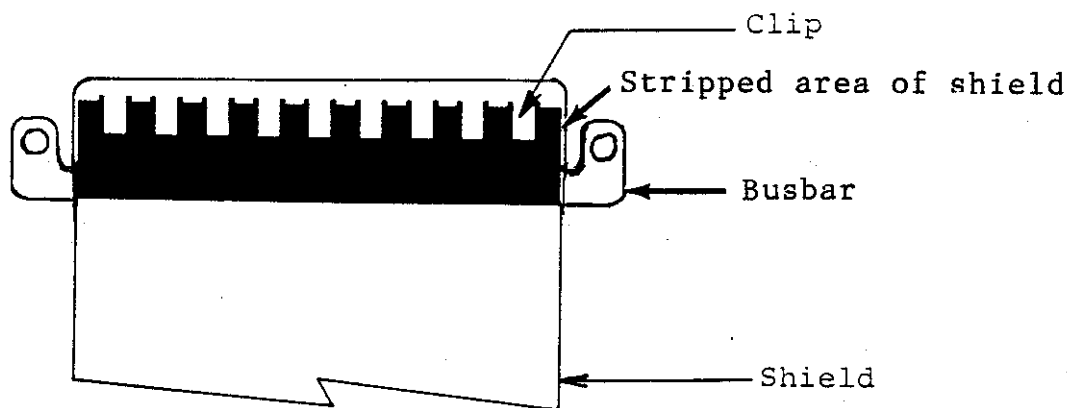

Figure 7-4. Inserting Prepared Planar Shield into Clips of Busbar
7. Insert the end of the shield into the clips at the rear of the busbar as shown in Figure 7-4.